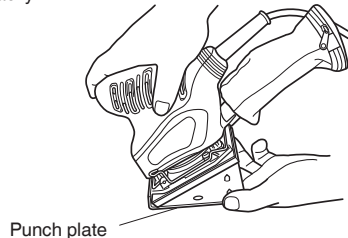

Fig. 6
3. Making a Hole in the Sanding Paper with the Punch Plate (Fig. 6)